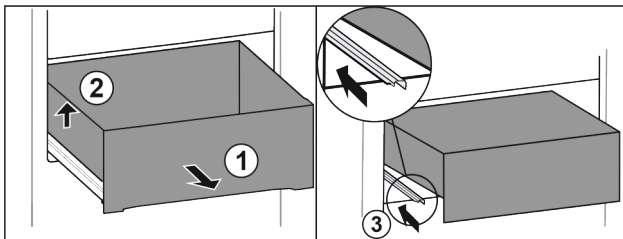

Fig. 184
- ▶ Pull out drawer as far as it will go. Fig. 184 (1)
- ▶ Lift drawer on the left. Fig. 184 (2)
- ▶ Insert left rail. Fig. 184 (3)